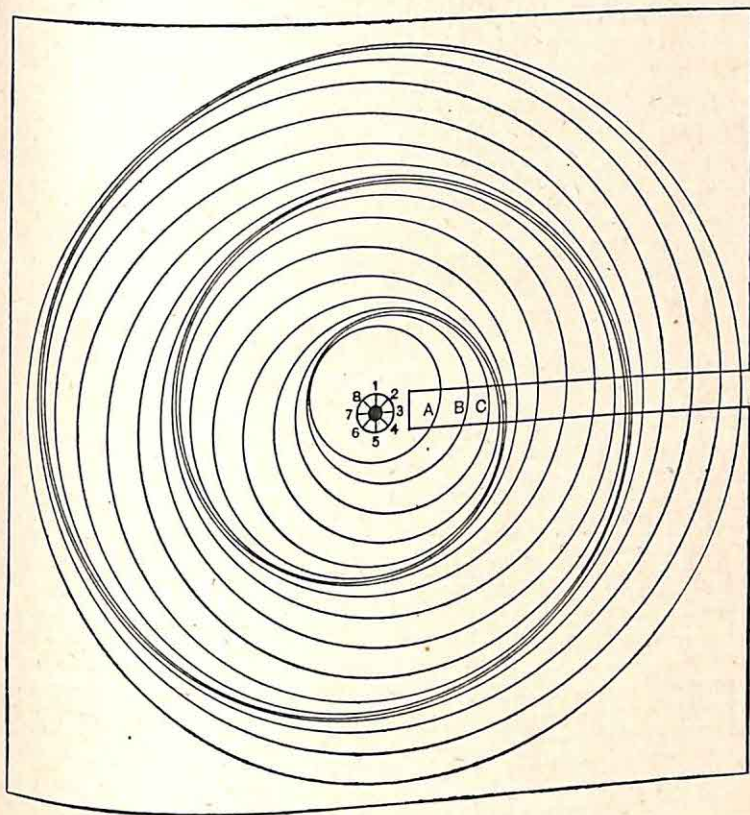

FIG. 77
**Crova's disc.**—The disc should be of cardboard or thin sheet metal. On it a number of circles increasing in radii by small steps is drawn with centres 1, 2, 3, 4, etc. equally spaced around a small circle (Fig. 77). Suitable dimensions are: small circle,  $\frac{1}{4}$  in. radius; circles with stepped radii, 1 in.,  $1\frac{1}{4}$  in.,  $1\frac{1}{2}$  in., etc.; diameter of card, 10 in. to 12 in. The disc, with a small hole bored concentrically with the small circle, is mounted on a turn-table. Independently, over it another sheet of cardboard with a rectangular slot cut in it is placed so that the arcs A, B, C, etc., of the circles are seen. This disc is rotated slowly so that the movement of each part A, B, etc., may be followed, and then more rapidly to show the compressions and rarefactions travelling along the slot.